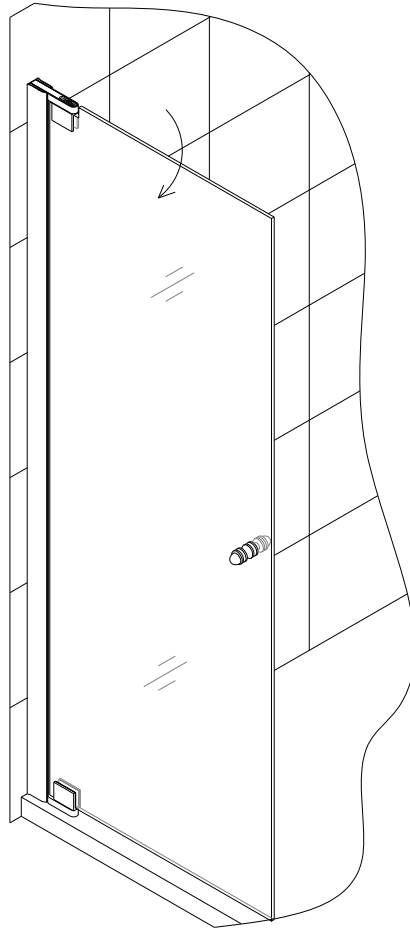

Fig 10
13. Open the glass door. Push the **Bottom anti-water strip (11)** onto the glass door. Push the other **Anti-water strip (10)** into the groove of the **Glass profile for glass door (2)**. See Fig 10 and Fig 11. Close the hole in the bottom pivot retainer with **Flat socket head screw M6×12 (19)**.
24. Open the glass door. Push the **Bottom anti-water strip (11)** onto the glass door. Push the other **Anti-water strip (10)** into the groove of the **Glass profile for glass door (2)**. See Fig 10 and Fig 11. Close the hole in the bottom pivot retainer with **Flat socket head screw M6x12 (19)**.